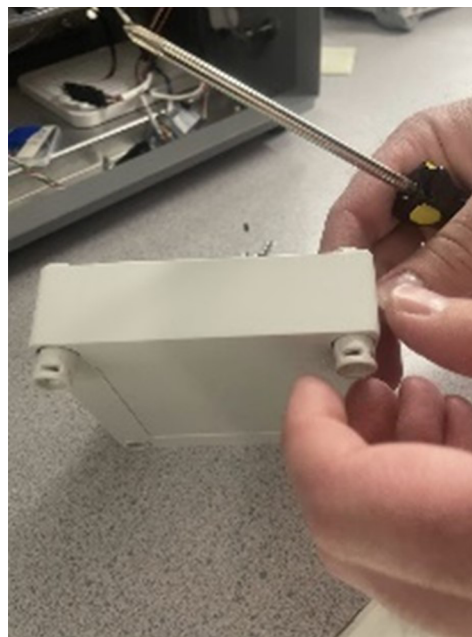

Figure 8: Close up of Main Power Box
- Close the door with the screws provided (Figure 8).